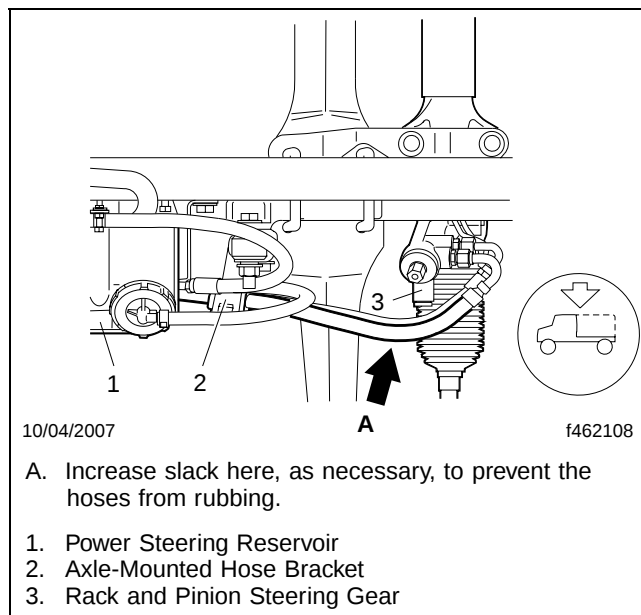
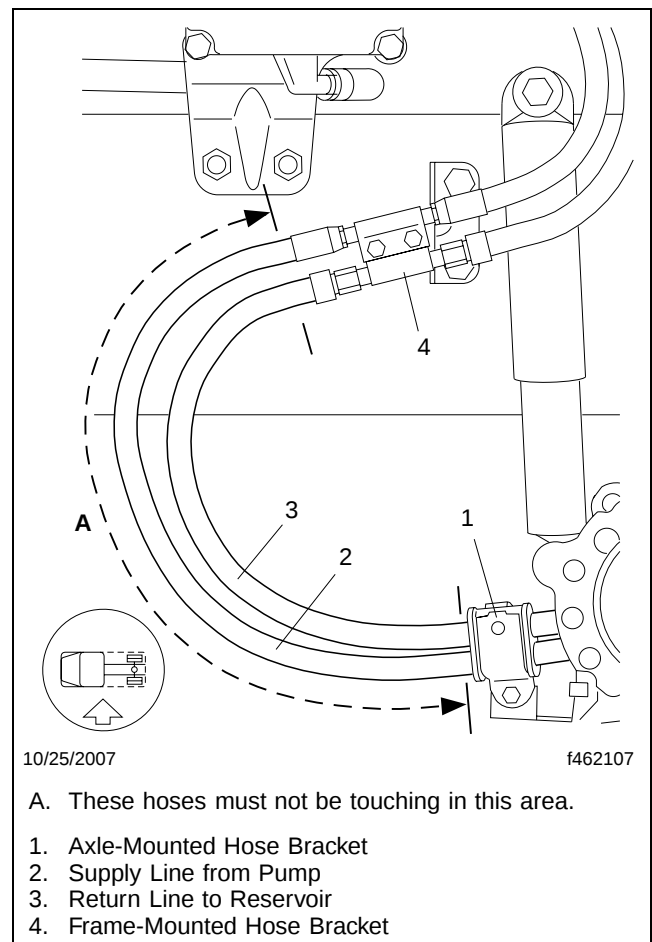

Fig. 8, View from Above
Fig. 9, Side View (fuel/water separator installed forward)
33. Include a little slack in the return line between the steering rack and the axle-mounted hose bracket (**Fig. 8**), to keep the hoses between the axle-mounted hose bracket and the frame bracket (**Fig. 9**) from rubbing together.